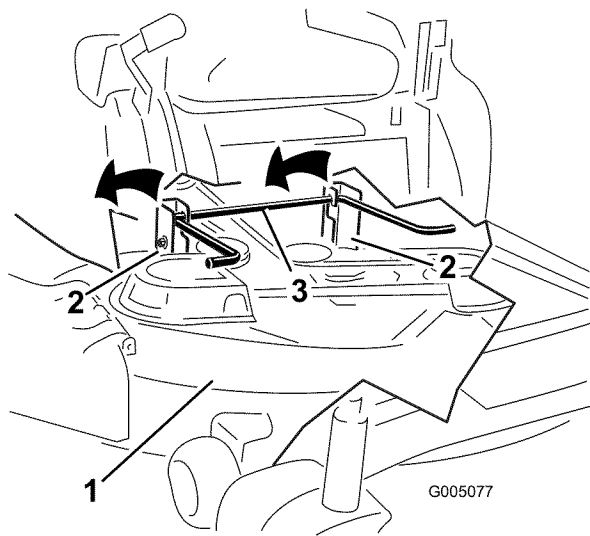

Figure 46
5. Lift the mower deck and hanger brackets clear of the rear lift rod and lower the mower carefully to the ground (Figure 46).
- 5. Lift the rear of the mower deck and guide the hanger brackets over the rear lift rod (Figure 46).